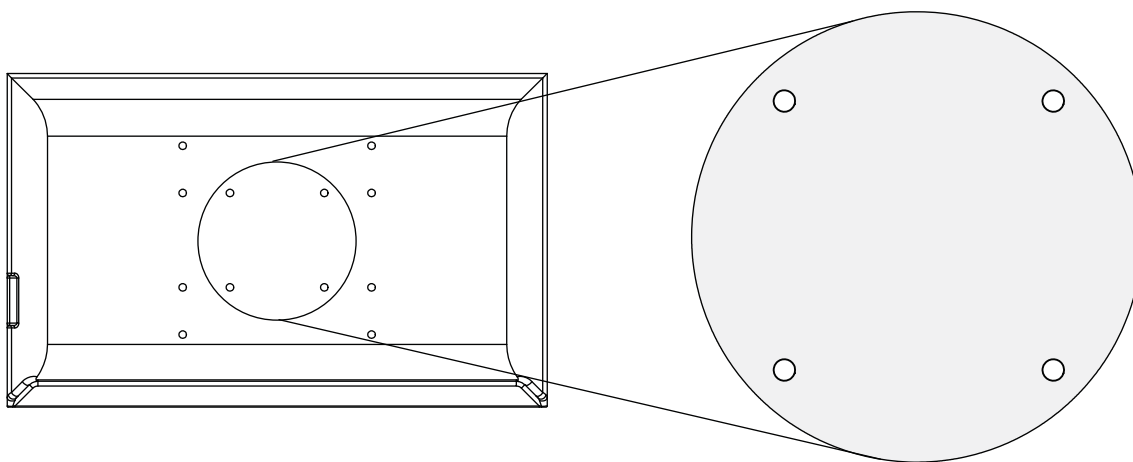

Figure 1 - 100mm VESA pattern shown
3. On the reverse of the monitor, locate the VESA mounting pattern (*figure 1*).